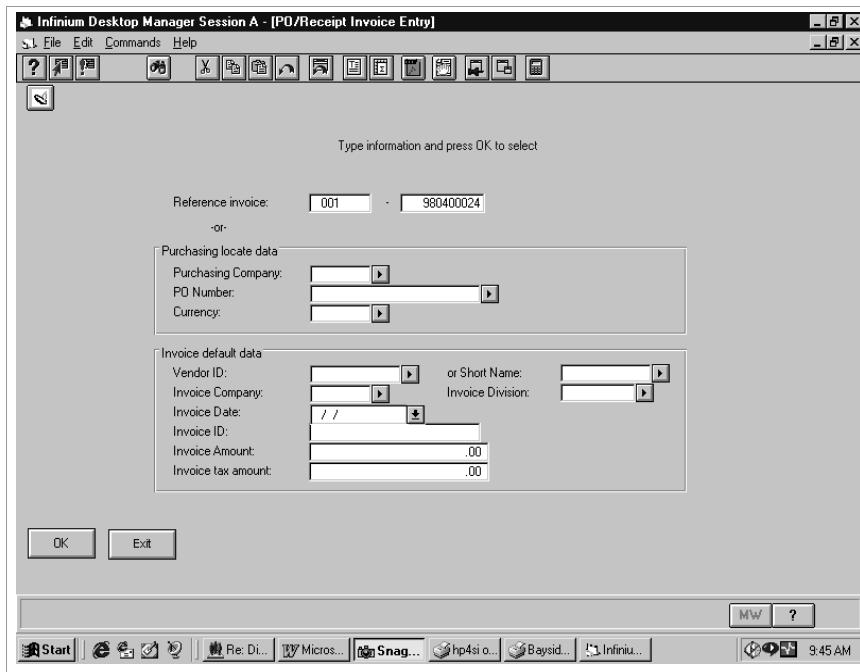

Figure 8-4: PO/Receipt Invoice Entry screen
- 5 Press Enter. The system displays a screen similar to Figure 8-4.